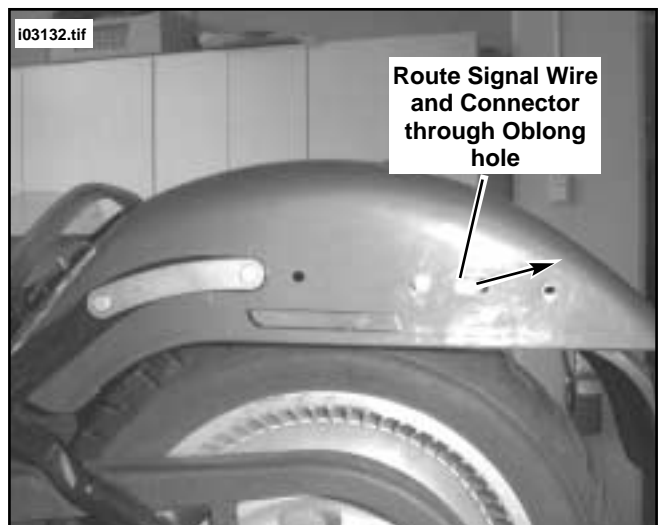

Figure 12. Route Wiring and Connector Back to Original Location
17. See Figure 12. While holding left side fender strut/signal assembly, route wiring w/connector through oblong hole in fender and back to original location near tail/stop lamp assembly.